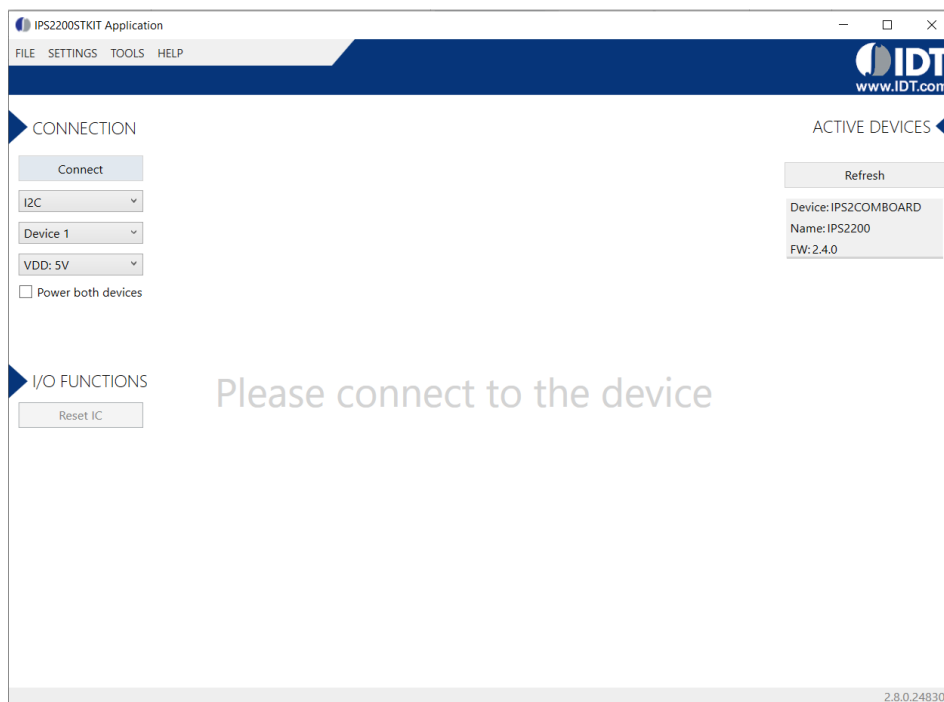

Figure 6. Start-Up Screen
3. Start the GUI application, see Figure 6 for the start-up screen.